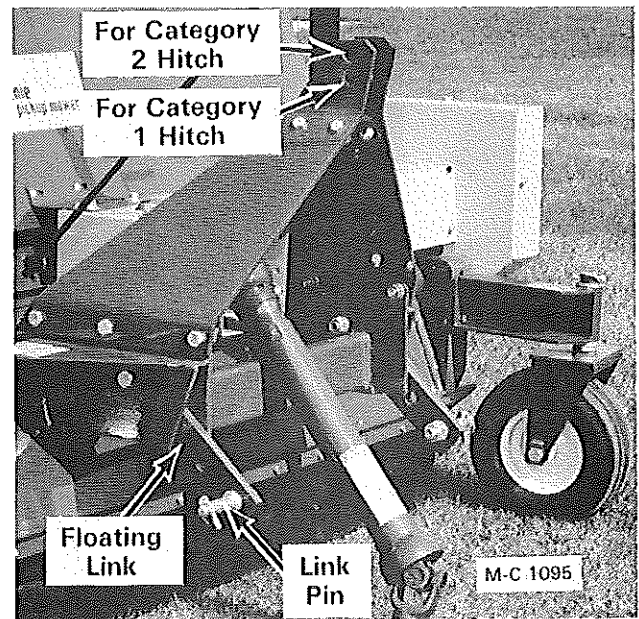

Figure 12
2. Lift the Lawn Genie with the tractor hydraulic system and connect the tractor hitch top (3rd) link to the Lawn Genie hitch bracket. The top hole in hitch bracket is for tractors with a category 2 hitch and the bottom hole is for tractors with a category 1 hitch, see Figure 12.